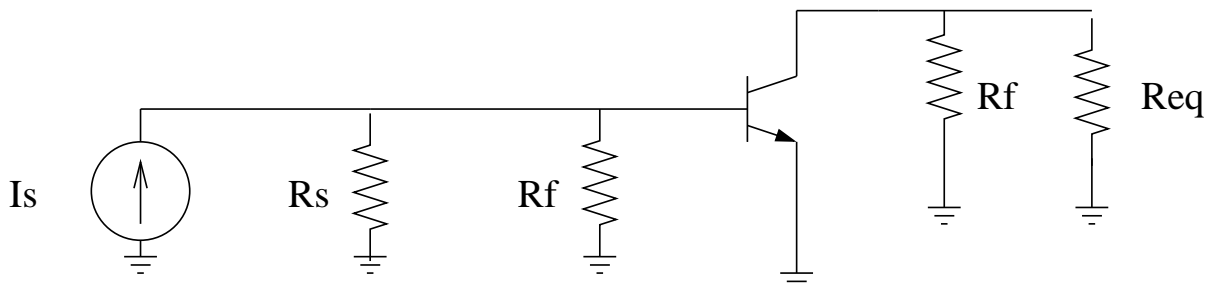

Figure 6: Equivalent Amplifier Loaded by Feedback Resistor
- **The Open Loop Gain, A** One tricky thing about analyzing feedback systems this way is calculating the correct value of the gain A. First of all, because we are sensing an output voltage and feeding back a current, the gain A is actually a transresistance (i.e.  $A = V_{out}/I_{in}$ ). In addition, one might be tempted to simply use the gain of the amplifier without  $R_f$  as A, but this is not always correct. If the feedback network loads the amplifier (as it certainly does in our case), then you must include the effects of the effective input and output impedance presented by the feedback network at the input and output of the amplifier. With a simple resistor in the feedback loop, it turns out that our amplifier is loaded on both sides by  $R_f$  to ground, as shown in Figure 6. Recall that we have also included  $R_{eq}$  at the output, which is the parallel combination of  $R_t$ , the tank impedance of our LC tank, and  $R_L$ , the input impedance of the next stage. Note also that, **in terms of this feedback analysis, we must include  $R_f$  and  $R_{eq}$  when we calculate  $Z_{inOL}$  and  $Z_{outOL}$ .**